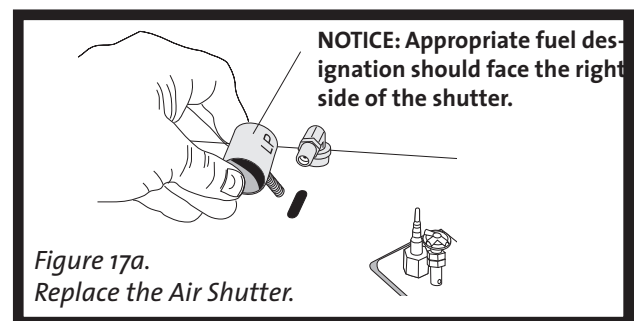

Figure 17a.
10. Replace the Air Shutter over the burner orifice. Note that NG/LP designations are stamped on the sides of the shutter. Orient the shutter so that the appropriate fuel designation is on the right, facing the pilot assembly. See fig. 17a.